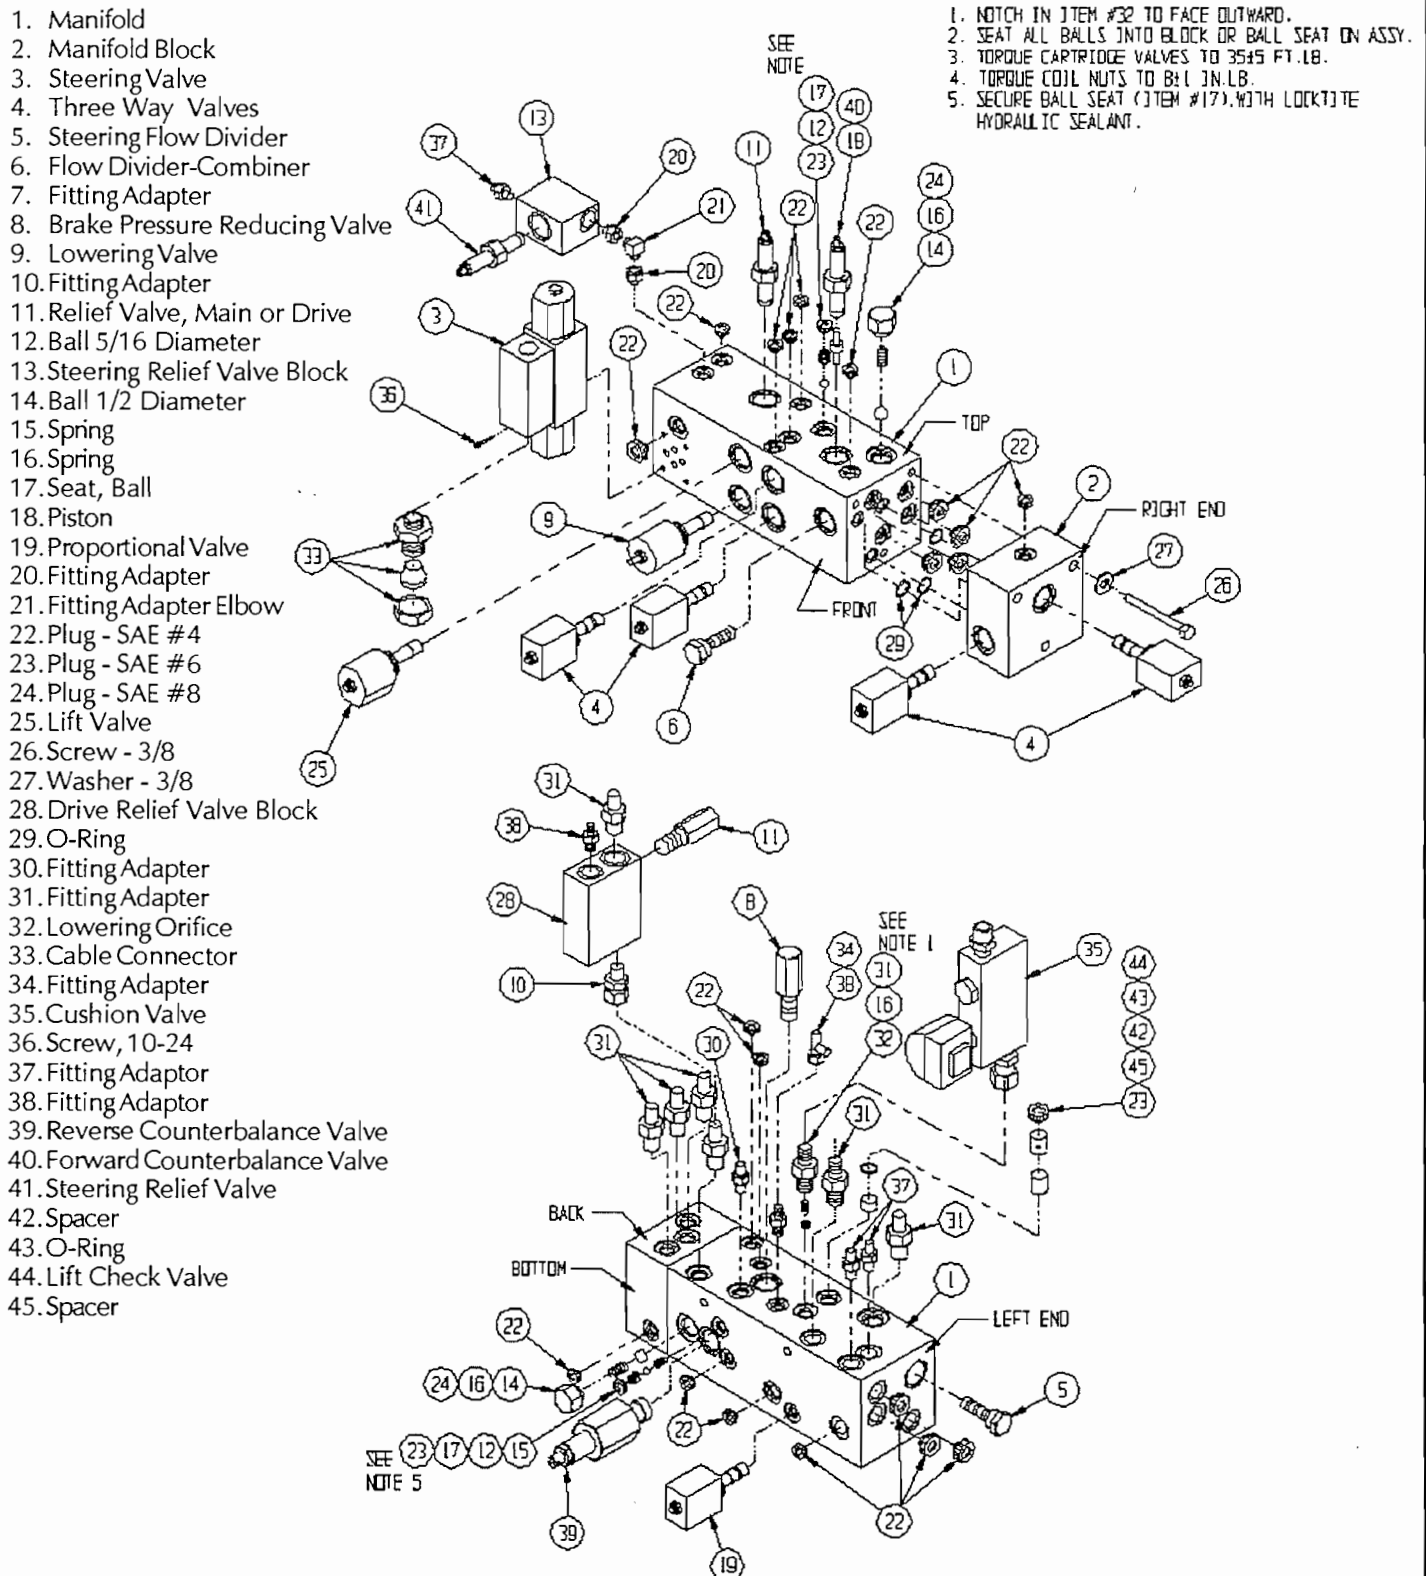

Figure 4-14: Hydraulic Manifold, Exploded View
4.7 Hydraulic Manifold (Figure 4-14)
NOTE: Mark all components as they are removed so as not to confuse their location during assembly. Refer to Figure 4-14 often to aid in disassembly and assembly.